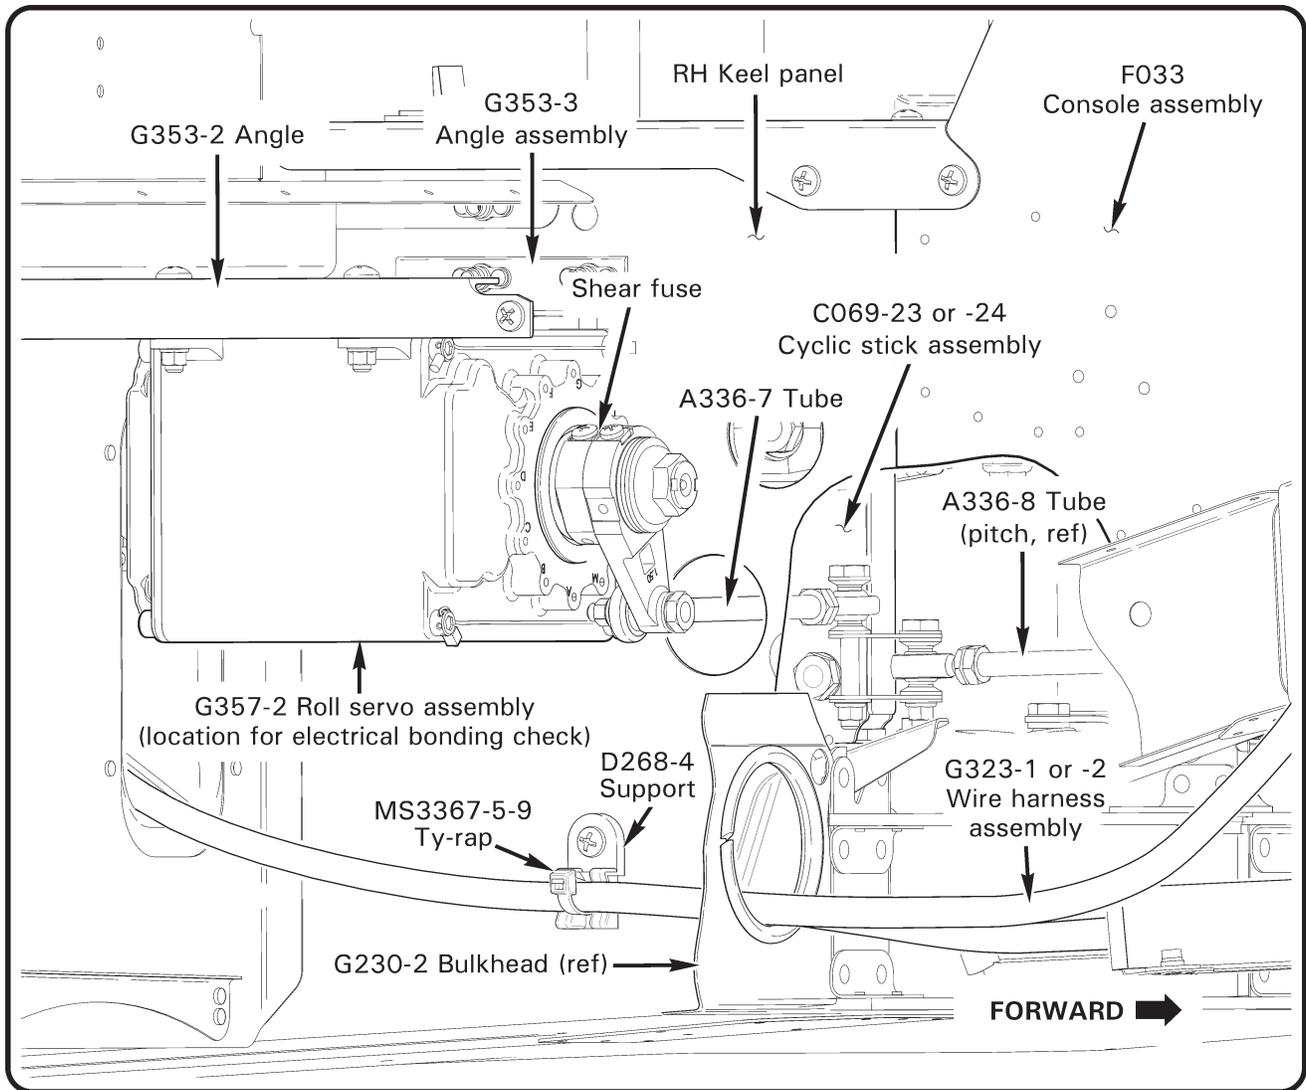

FIGURE 22-3 GARMIN FCS – ROLL SERVO ASSEMBLY
2. Refer to Figure 22-3 and IPC Figures 6-1, 6-11, and 6-13. Remove hardware securing F680-3 cover, F445 collective covers, and F794-1 panel.
6. Refer to Figure 22-3. While supporting servo, remove screws securing G353-2 angle and G353-3 angle assembly and remove servo from under seat.
5. Refer to Figure 22-3. Position servo assembly under pilot's seat, ensure A336-7 tube is thru hole in F293-2 panel and install screws securing G353-2 angle and G353-3 angle assembly to cabin. Verify security.
10. Refer to Figure 22-3 and IPC Figures 6-1, 6-11, and 6-13. Install screws securing G702-14 cover assembly under pilot's seat. Install F445, F680-3 collective covers, and F794-1 panel. Verify security.